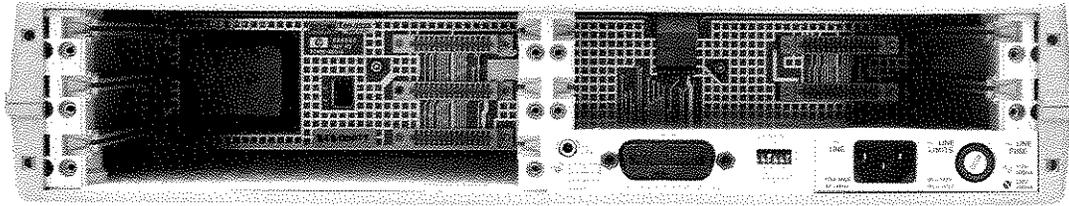

Figure 11-6. Rear Panel of the 3488A
- c. Select a slot. Refer to Figure 11-6; the 3488A has five slots for installing option assemblies. the 44475A Breadboard may be installed in any of the five slots.